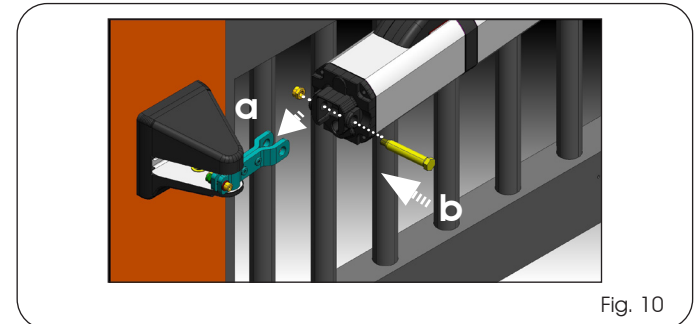

Fig. 10
5. Assemble the operator and the rear bracket using the supplied pin and nut (Fig. 10 Ref. a - b).